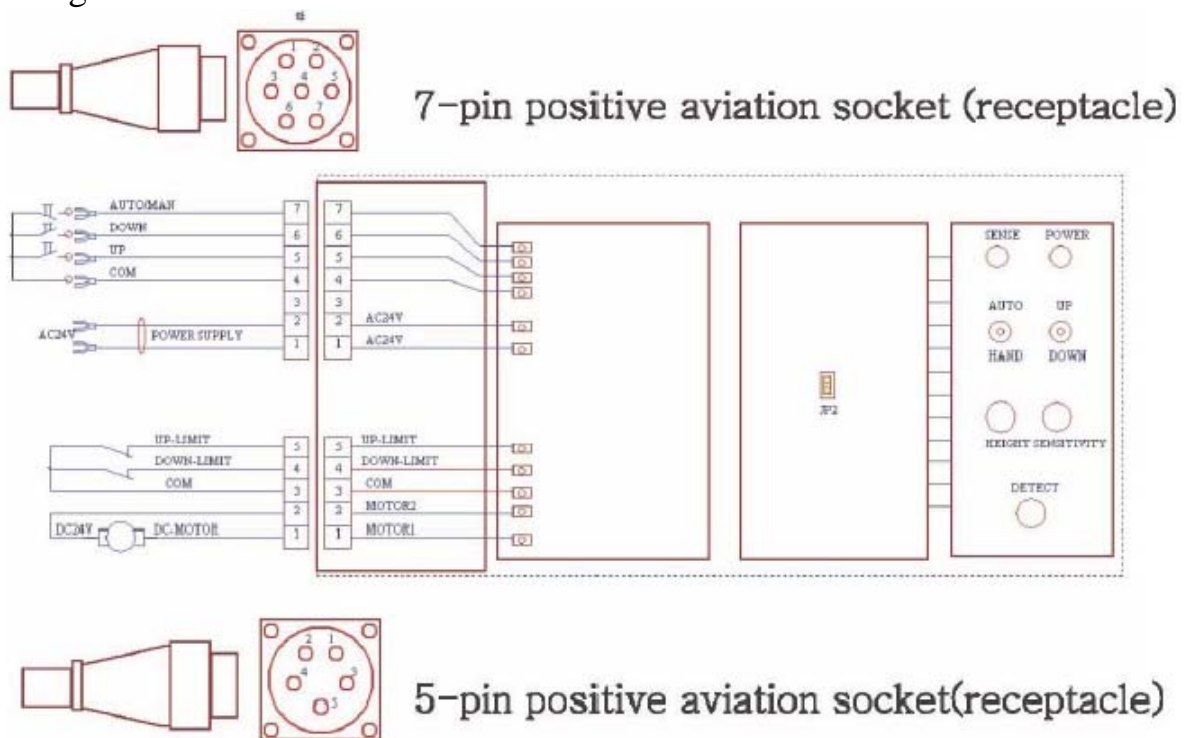

Figure 21 : Control PCB –Connection of aviation socket
1、 Figure 21 shows the connection of control PCB's aviation socket.